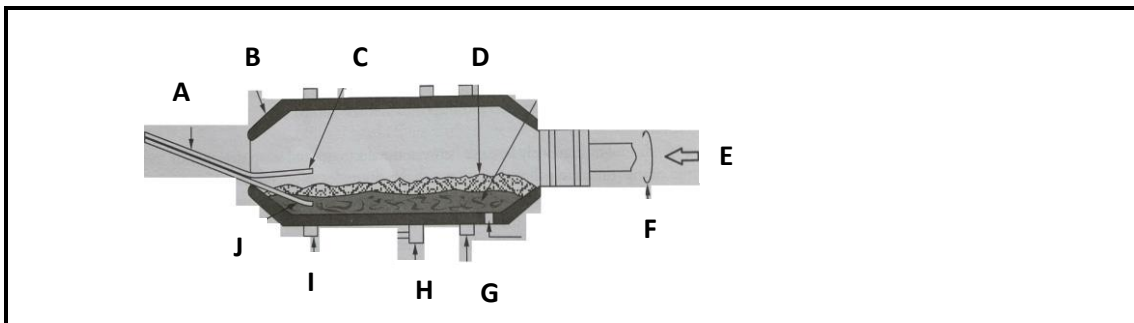

FIGURE 4.4
4.4 Identify the labels of the rotor plant (furnace) as shown in FIGURE 4.4 below.